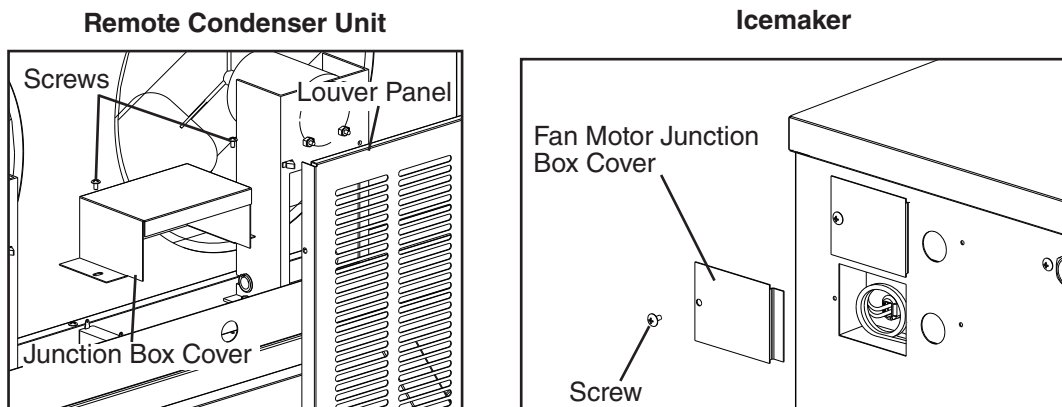

Fig. 14
- 1) Remove the remote condenser unit louver panel. See Fig. 14.